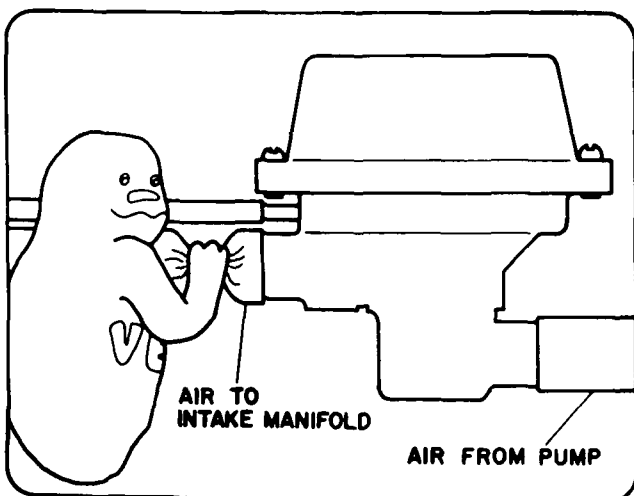

Figure 6-17
7. Figure 6-17 shows the gulp valve being tested. List the basic steps necessary to perform this test.